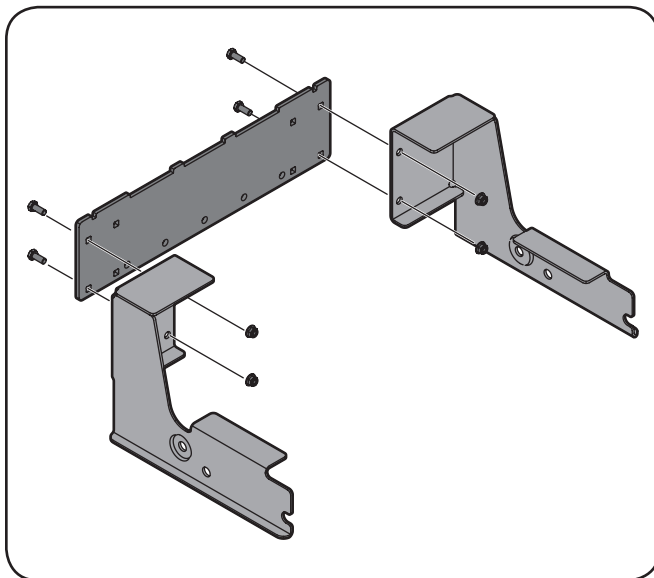

Figure 4-1
To assemble the bagger mounting assembly, locate the mounting assembly parts, as shown in Figure 4-1 in the previous section, and follow these steps:
1. Attach the two hitch side brackets to the rear attachment bracket using four 710-0276 carriage bolts and 712-04063 flange lock nuts from hardware pack 689-00320. See Figure 4-1.